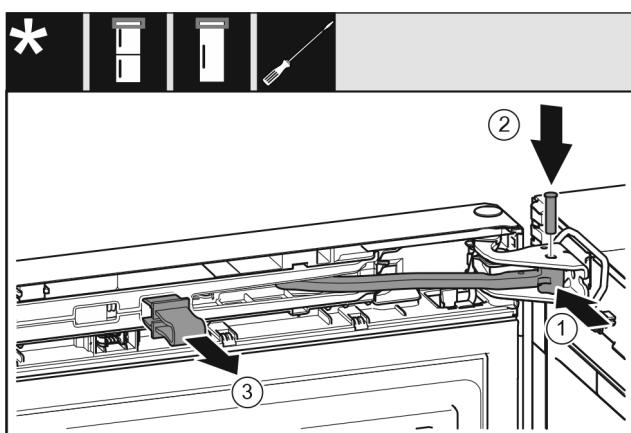

Fig. 48
- Turn the hinge in the bearing bracket. *Fig. 48 (1)*
- Insert the bolt in the bearing bracket and hinge. Make sure that the latching lug is sitting correctly in the groove. *Fig. 48 (2)*
- Remove the locking device. *Fig. 48 (3)*